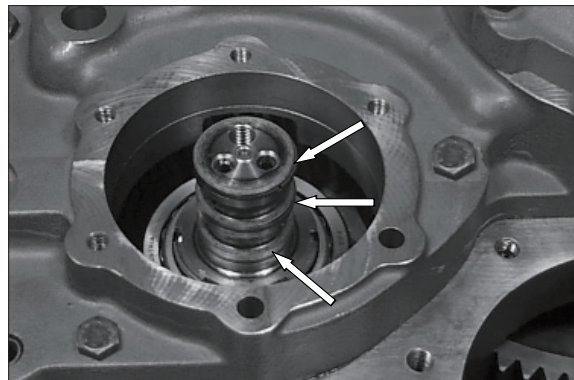

Figure 272
(9) Check the function of both clutches by means of compressed air.
- ※ In case of a decisive pressure loss, the possible cause might be the breakage of one or several rectangular rings (see arrow, figure 272).